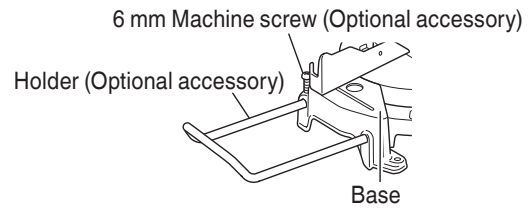

Fig. 9
- As indicating in Fig. 9, installing the holder in the holes on the side of base and fasten it with 6 mm machine screw (Optional accessory).